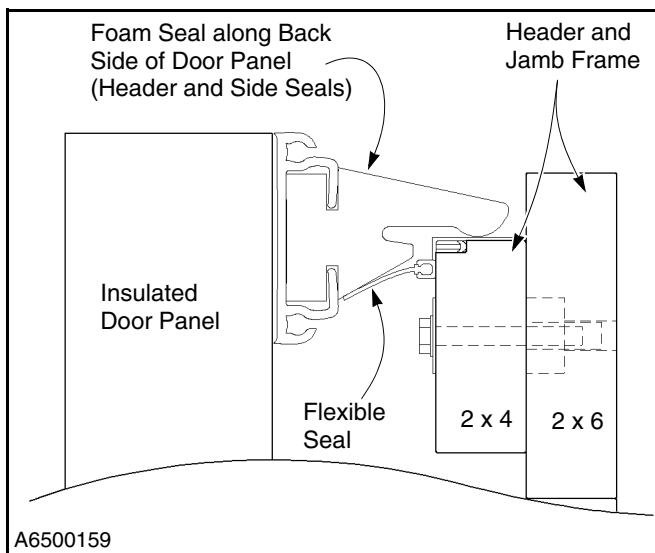

Figure 26
8. Inspect the foam seals along the back side of each panel. The seals should not be torn or damaged. Replace as necessary. (See Figure 26.)